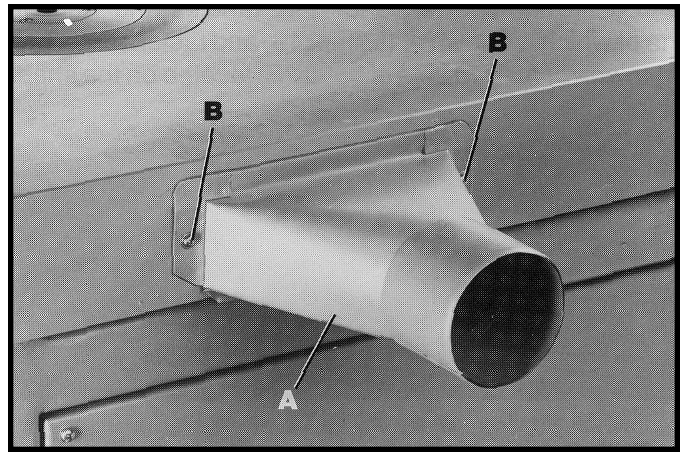

Fig. 15
Assemble dust chute (A) Fig. 15, to rear of shaper table, using the two screws and washers (B) as shown.